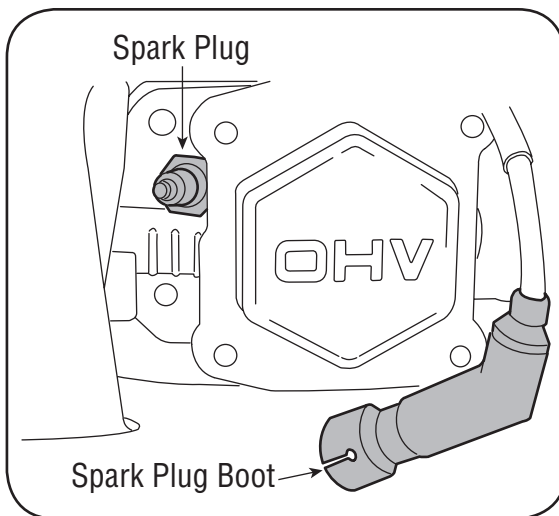

Figure 10-3: The spark plug and boot.
1. Remove the spark plug boot and use a spark plug wrench to remove the plug. See Figure 10-3.